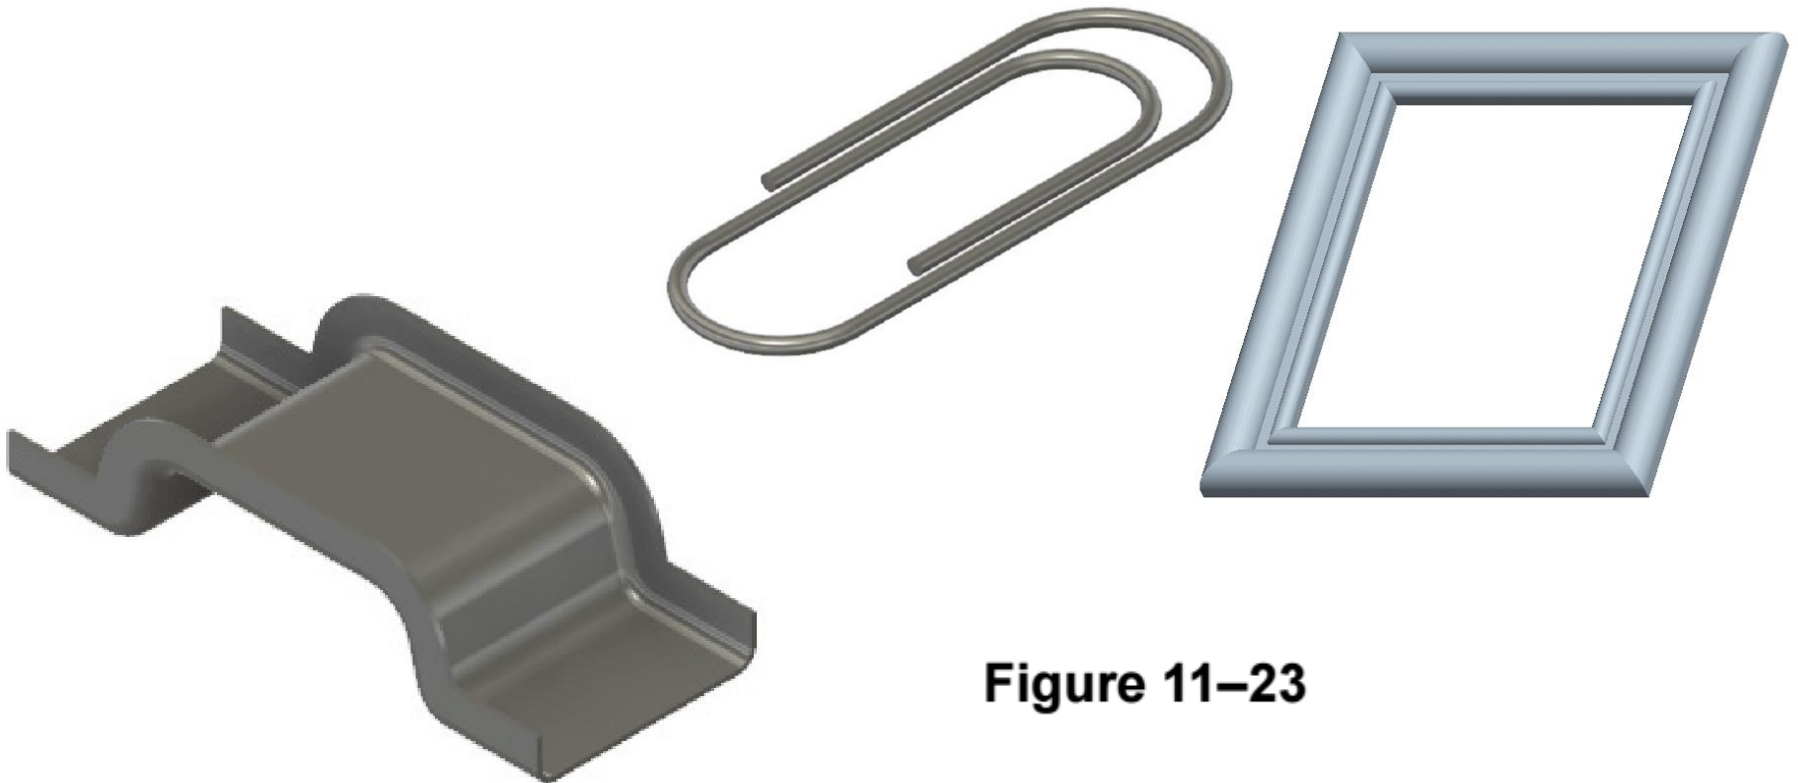

Figure 11–23
1. Create the parts shown in Figure 11–23 using swept features.